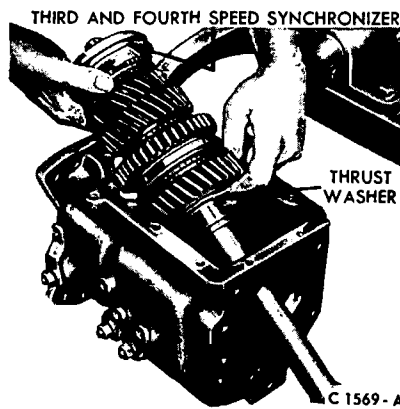

FIG. 8—Removing Output Shaft Assembly
17. Support the thrust washer and first-speed gear to prevent them from sliding off the shaft, then lift the output shaft assembly from the case as shown in Fig. 8.
from sliding off the shaft. Carefully lower the output shaft assembly into the case as shown in Fig. 8.